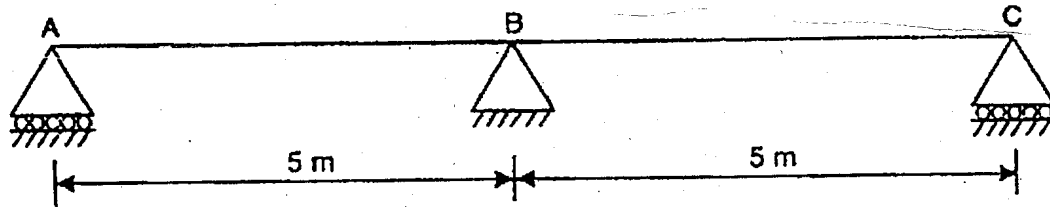

Figure 4
16. Determine the influence line for reaction at A for the continuous beam shown in Figure 4. Compute the influence line ordinates at 1 m intervals :